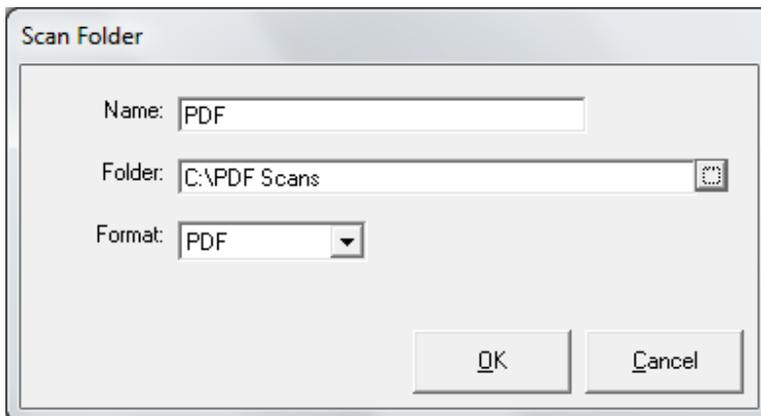

Fig 1-9
1. Under the **Scan Destinations** field click [New] to open **Scan Folder** (Fig 1-9).